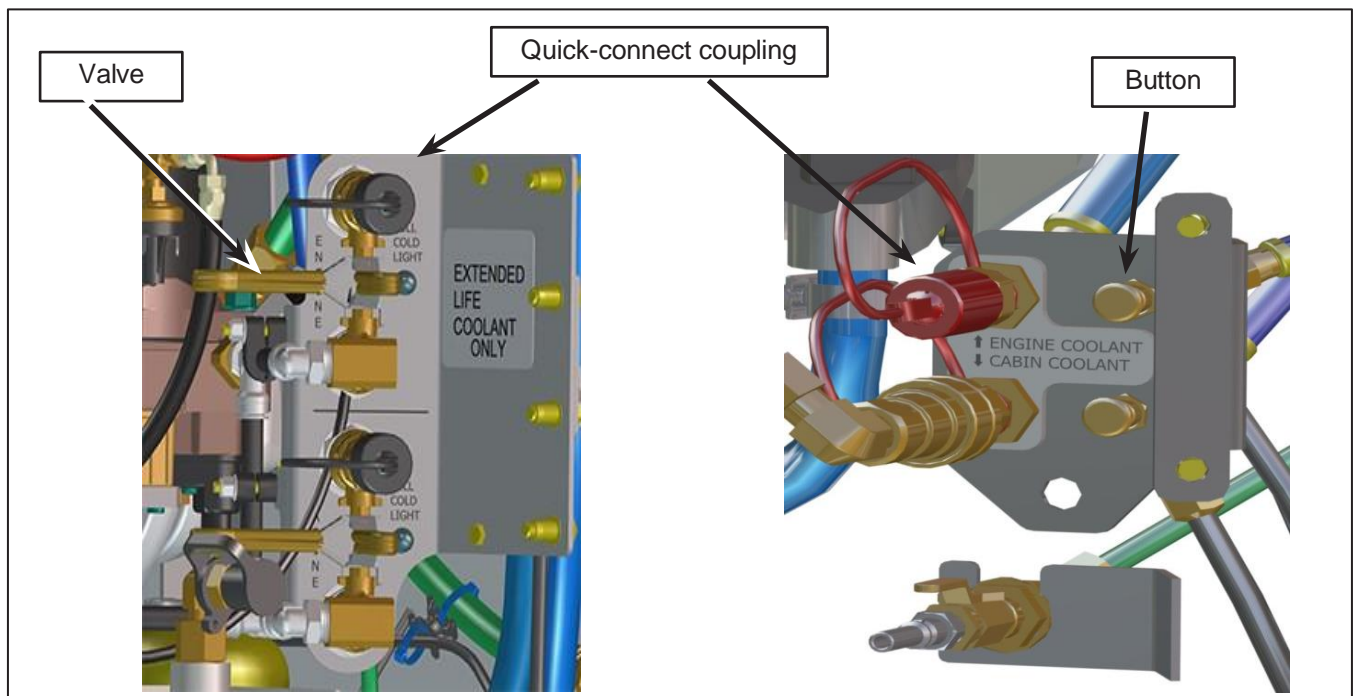

Figure 8 - Coolant Quick Connect Filling Fitting and Valve
- 1.29. Connect the coolant fill hose to the quick-connect coupling, located at the rear left of the engine compartment and place a suitably sized container where the surge tank drain line ends under the vehicle to collect the coolant being rejected during filling. See Figure 8.
- 1.30. Start filling the system with the retained coolant, open the valve or press the button, and maintained to evacuate the air from the surge tank. It is very important that the valve remains open throughout the filling procedure to avoid a buildup of pressure inside the tank. Fill until overflow. Close the valve. See Figure 8.